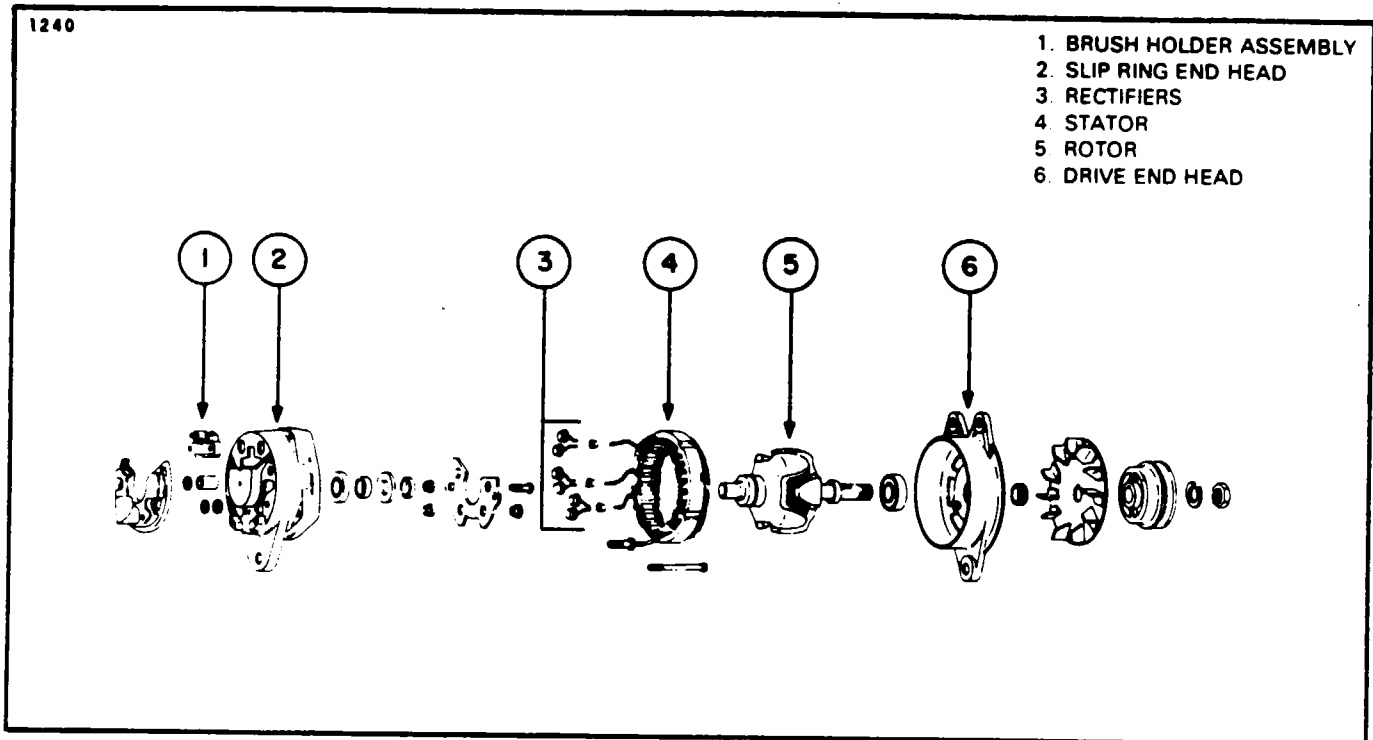

Figure 11-3. Exploded View of Alternator (Prestolite)
11-8. DESCRIPTION OF ALTERNATOR. (Refer to Figure 11-3.) The principal components of the alternator are the brush holder assembly (1), the slip ring end head (2), the rectifiers (3), the stator (4), the rotor (5) and the drive end head (6).